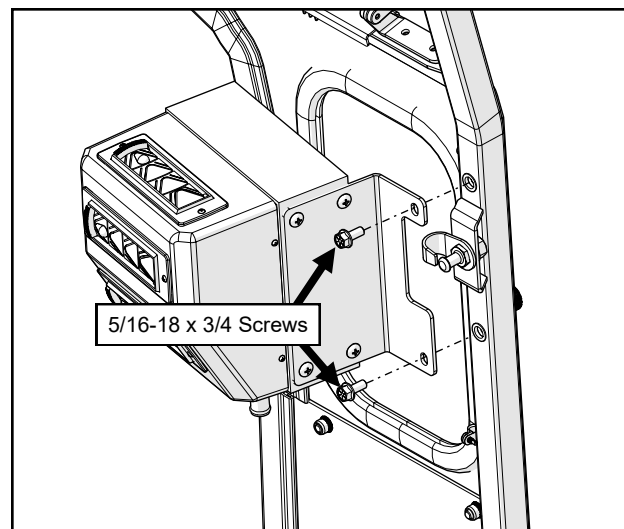

Fig. 14.2 (Install Heater)
14.2 Attach the heater bracket to the right A-pillar. See Figure 14.2. Tighten hardware.